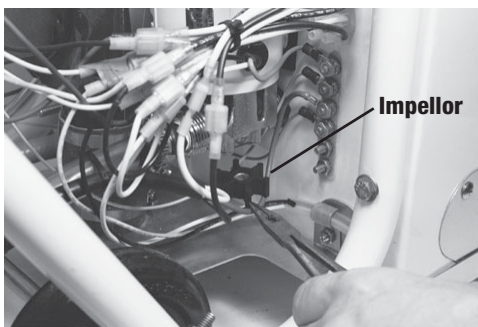

Figure 7
4. Pull impeller out of pump head with needle-nose pliers (fig 7).